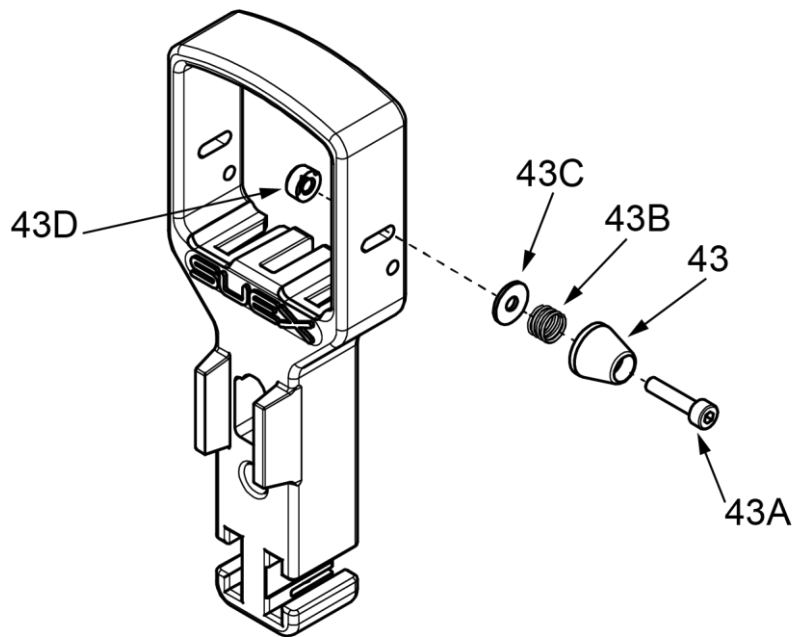

Fig 21 - Place cruise control on the right side
- Unscrew the screw (43A) by locking the nut (43D **Fig 21 - on p. 18**) (use the tools provided),
- reposition all cruise control components on the right side of the handle respecting the sequence (see **Fig 21 - on p. 18**).